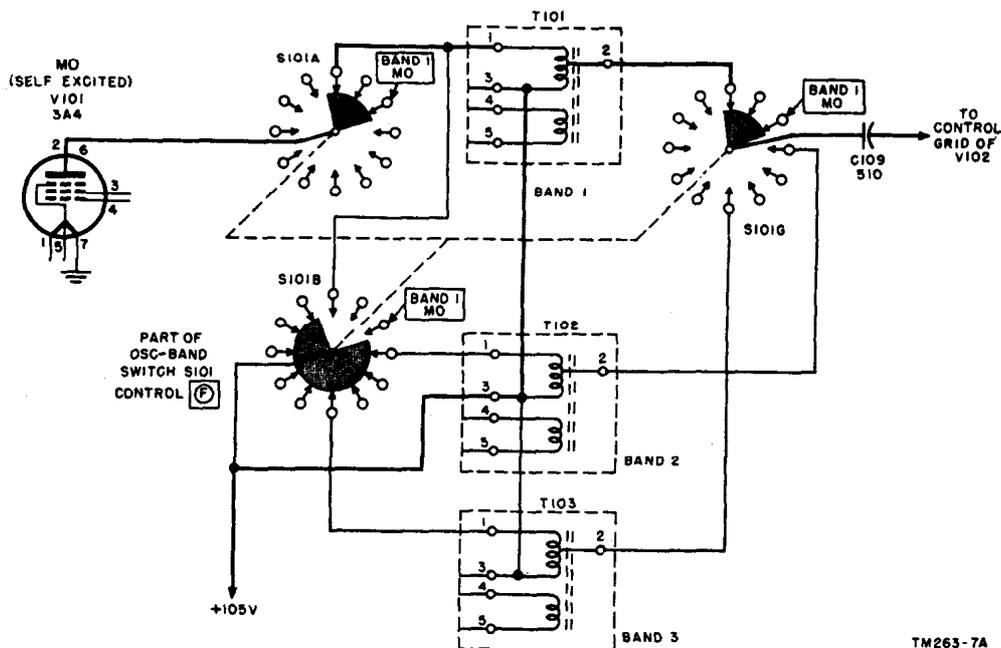

Figure 71. Mo (self-excited), switch sections S101A, S101B, and S101G, simplified schematic diagram.
- (1) *Switch section S101A* (fig. 71). Section A of S101 determines which of the three plate circuit coils is to be used. Section A connects the plate of V101 to coil terminals 1 and 3 of transformer T101 (BAND 1) as shown by the weighted line in the figure.
- (2) *Switch section S101B* (fig. 71). Section B of S101 shorts out the other unused plate coils so as to prevent interaction with the coil circuit being
- (7) *Switch section S101G* (fig. 71). Section G of S101 connects the rf voltage from the plate coil in use to the control grid of voltage doubler V102.